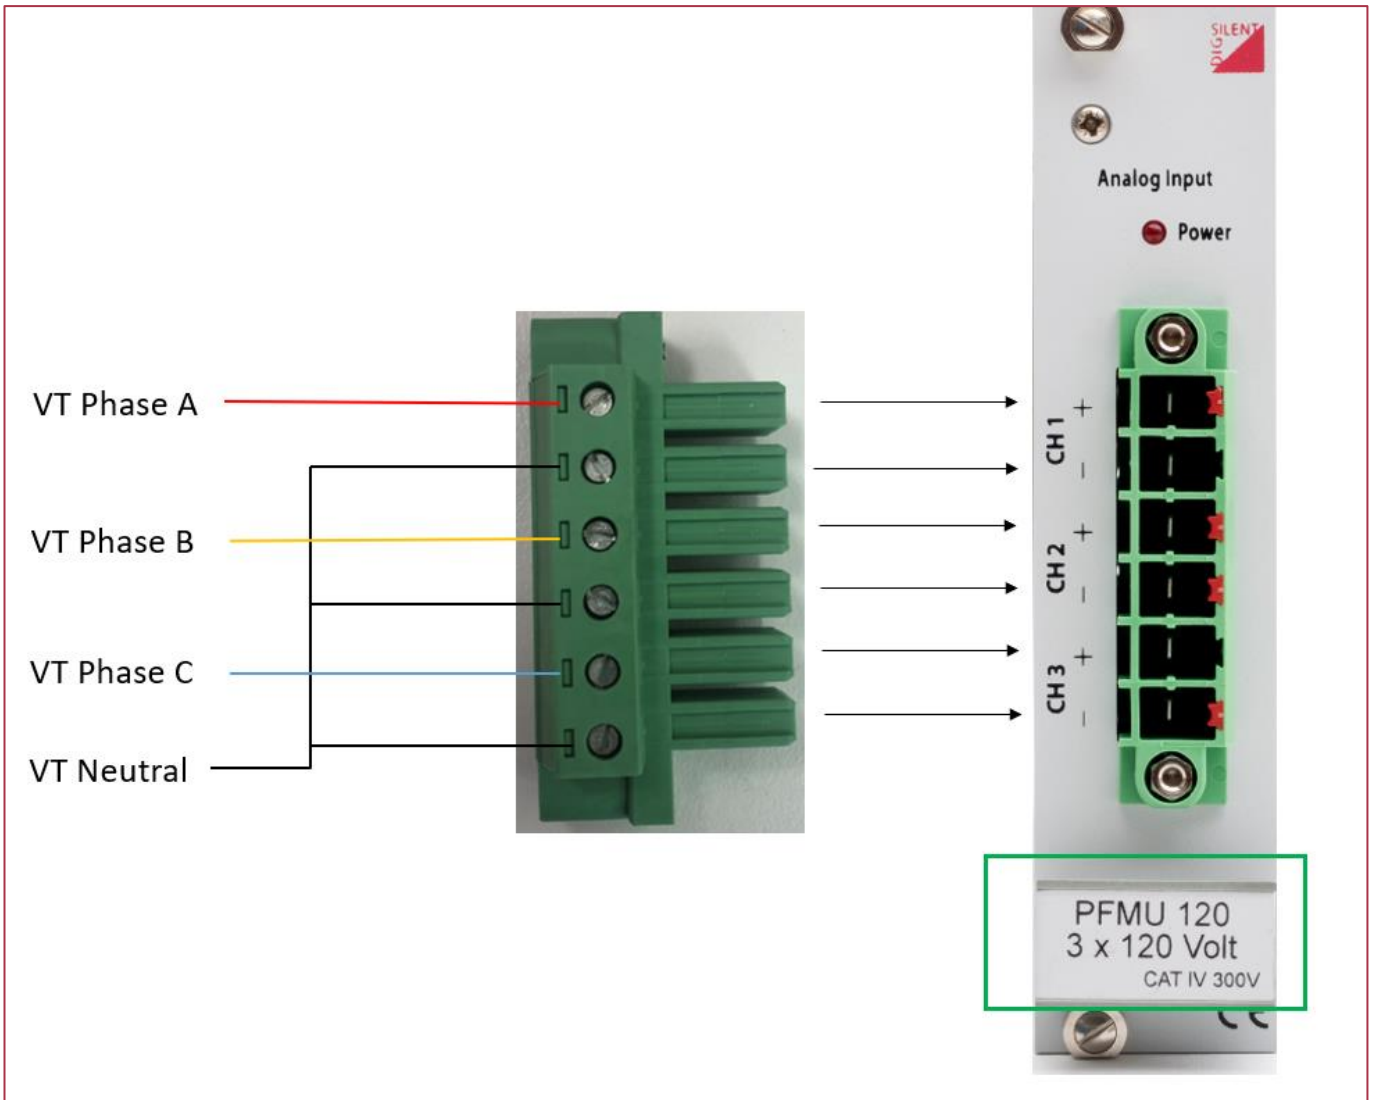

Figure 2.1. Connection diagram for voltage inputs (ID No: 1)
2.1 Voltage inputs – identification number (1)
The voltage transformer's (VT) secondary side is connected to the voltage card via a Phoenix contact, as depicted in Figure 2.1 below. The voltage card can be identified by the label "Volt" (e.g., 3 x 100 Volt) or by its ID (e.g., PFMFU 120), where 'U' denotes voltage.